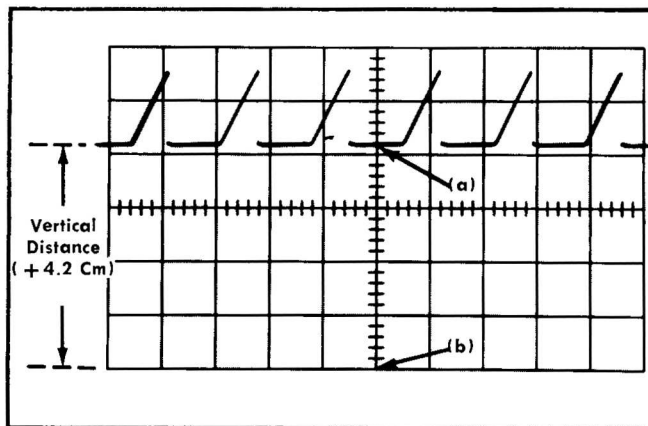

Fig. 3-2. Measuring instantaneous voltage with respect to some reference.
3. Set the Channel 1 AC-DC-GND switch to GND and position the trace (with the Channel 1 POSITION control) to one of the horizontal graticule lines such as point (b) in Fig. 3-2. This line will be used as a ground (or zero) reference line. In any case, the reference line chosen will depend upon the polarity and DC level of the signal to be measured. Do not move the Channel 1 POSITION control after the reference line has been established.
7. Measure the vertical distance in centimeters from the ground (zero) reference line established in step 3 to the point on the waveform that you wish to measure, such as between (a) and (b) in Fig. 3-2. If the PULL TO INVERT switch is pushed in and the point on the waveform is above the reference line, the polarity is indicated to be positive (+). If the point is below the line, the polarity is negative (—). If the PULL TO INVERT switch is pulled out, the indicated polarities will be reversed.
8. Multiply the measured distance by the setting of the VOLTS/CM switch and the attenuator factor, if any, of the probe. This is the instantaneous DC level of the point measured. For example, assume the vertical deflection is 4.2 cm above the reference line (see Fig. 3-2) using a 10 \times attenuator probe with the PULL TO INVERT switch pushed in and the VOLTS/CM switch set to 2. Substitute these values in the following formula: